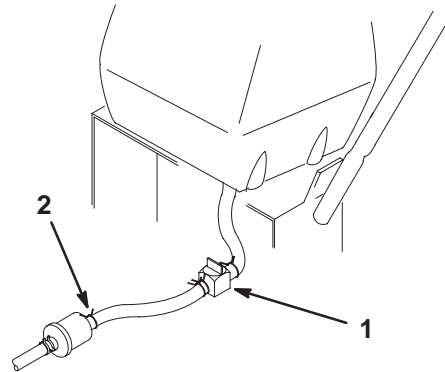

Figure 44
2. Close fuel shut-off valve at fuel tank (Fig. 44).
3. Squeeze the ends of the hose clamp together and slide it up the fuel line away from fuel filter (Fig. 44).
4. Pull the fuel line off the fuel filter (Fig. 44). Open fuel shut-off valve and allow gasoline to drain into a gas can or drain pan.
3. Close fuel shut-off valve at fuel tank (Fig. 44).
7. Open fuel shut-off valve at fuel tank (Fig. 44).